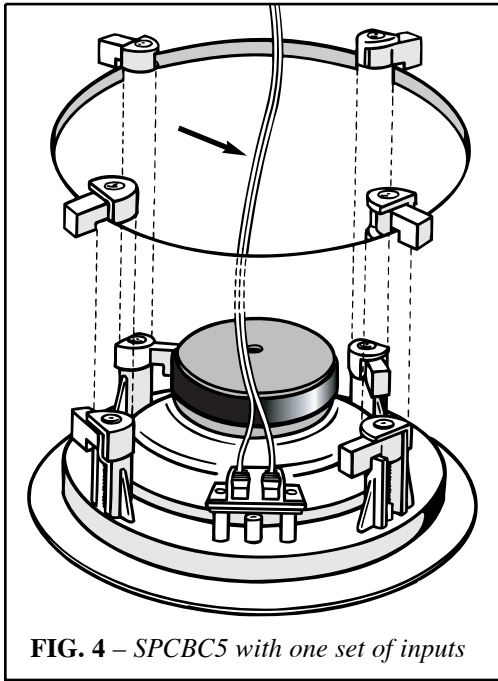

FIG. 4 – SPCBC5 with one set of inputs
5. Attach the wire to the input terminals on the rear of the speaker (See Fig. 4: the SPCBC5 has only one set of inputs. Remember to maintain proper polarity with the amplifier by attaching the positive (+) lead to the red terminal and the negative (-) lead to the black terminal.
6. See Figs 4 and 5 on reverse. With the speaker wire attached to the speaker, slide the speaker up inside the cut-out hole. Center the speaker in the cut-out hole and turn the four locking screws clockwise until the speaker is drawn up snugly to the wall board from behind, clamping the speaker in place. Try to tighten each screw equally. Replace the speaker grille by gently pressing it into place. If necessary, use black grille adhesive to secure the grille. (Continued on reverse)